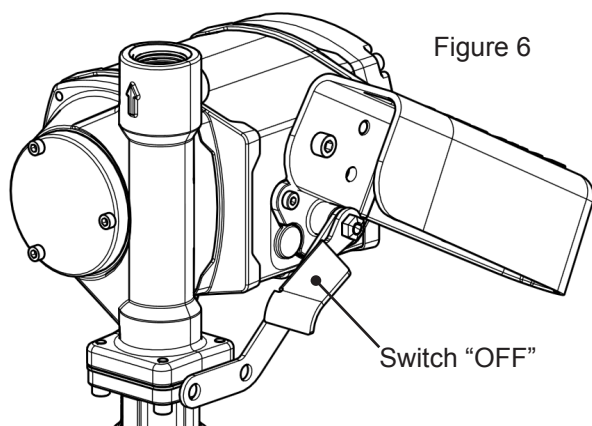

Figure 6
6. Move switch lever to the "OFF" (lowered) position (Figure 6) to stop the motor.